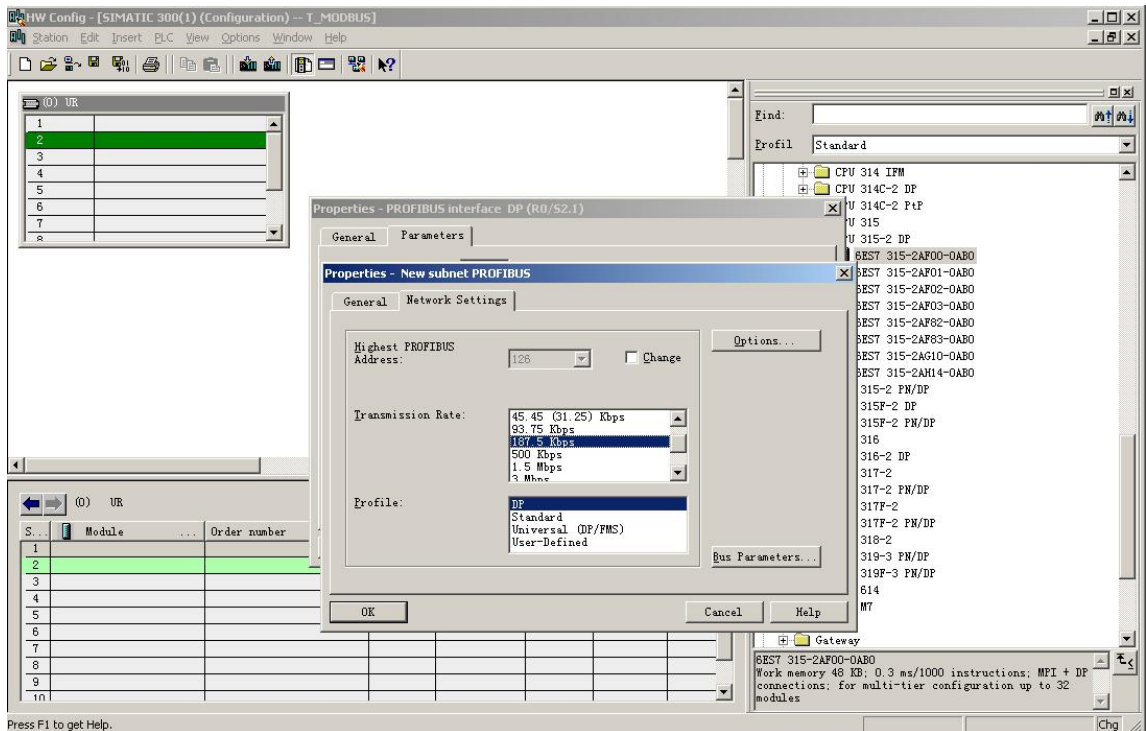

Figure 8
9. Create PROFIBUS DP network and set up PROFIBUS DP: Click New and then Network settings, select DP; select a baud rate such as 187.5Kbps, then "OK". Double-click it; Figure 8: